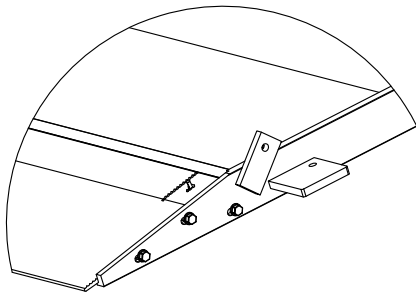

Figure 1: Platform on ground.
1. **Unlatch, Open, and Lower** the platform until it is resting flat on the ground (Figure 1).